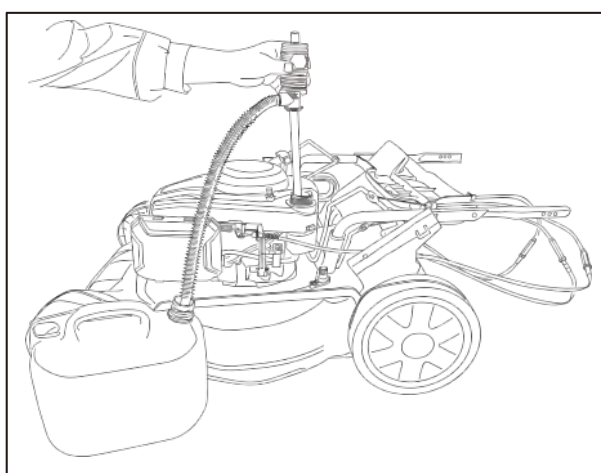

Fig. 29
1. Do not allow gas to remain in your engine for long term storage. It must be drained out into a container.(Fig. 29)